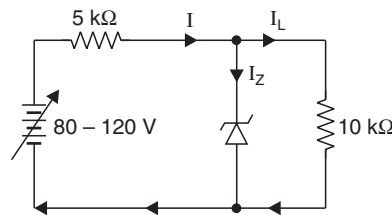

Fig. 58
4. For the circuit shown in Fig. 58, find the maximum and minimum values of Zener diode current.
5. The zener diode shown in Fig. 58 has $V_Z = 18$ V. The voltage across the load stays as 18 V as long as I_Z is maintained between 200 mA and 2A. Find the value of series resistance R_S so that V_{out} remains 18 V while input voltage is free to vary between 22 V to 28 V. [Ans. 3.33 Ω]